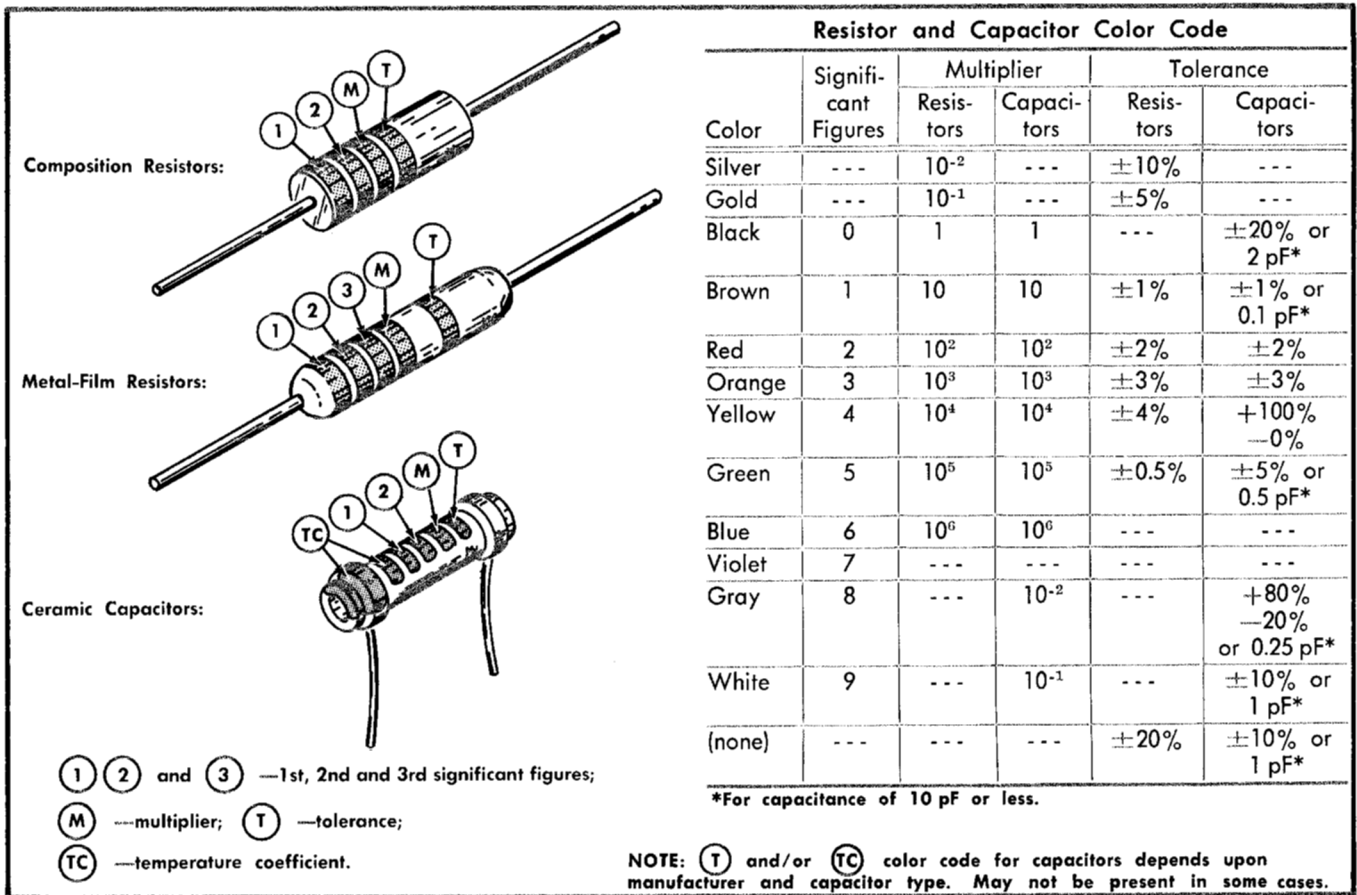

Fig. 4-1. Resistor and capacitor color code.
**Resistor Color-Code.** In addition to the brown composition resistors, some wire-wound resistors and some metal-film resistors are used in this instrument. The resistance values of wire-wound resistors are printed on the body of the component. The resistance values of composition resistors and metal-film resistors are color-coded on the components (some metal-film resistors may have the value printed on the body) with EIA color-code. The color code is read starting with a stripe nearest the end of the resistor. Composition resistors have four stripes which consist of two significant figures, a multiplier and a tolerance value (see Fig. 4-1). Metal-film resistors have five stripes consisting of three significant figures, a multiplier and a tolerance value.
**Capacitor Marking.** The capacitance values of common disc capacitors and small electrolytics are marked in microfarads on the side of the component body. The white ceramic capacitors used in the 7A13 are color-coded in pico-farads using a modified EIA code (see Fig. 4-1).